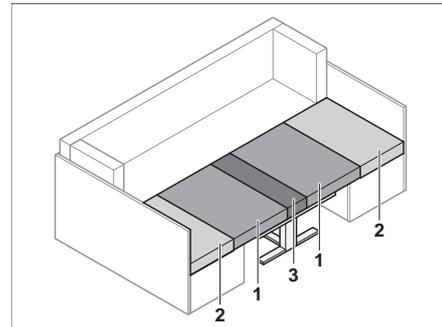

Fig. 74 After conversion
- Remove the back cushions (Fig. 74,2).
- Pull the seat cushions (Fig. 74,1) into the centre.
- Insert the back cushions (Fig. 74,2) between the seat cushions (Fig. 74,1) and the exterior wall.
- Insert the additional cushion (Fig. 74,3) onto the table between the seat cushions (Fig. 74,1).